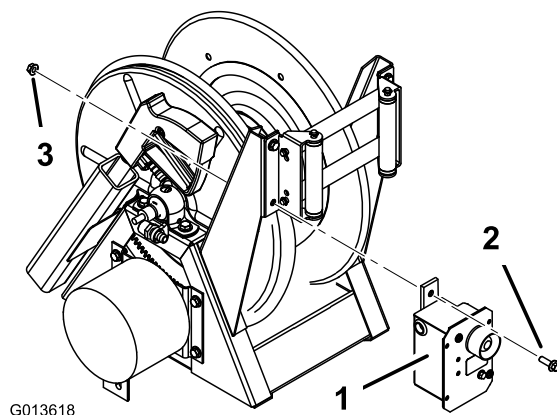

Figure 2
1. Remove and discard the bolt and nut from the lower inside roller support on the hose reel (if existing) and install the electrical box in that hole (Figure 2), using a flange-head bolt (5/16 x 1 inch) and a flange nut (5/16 inch).